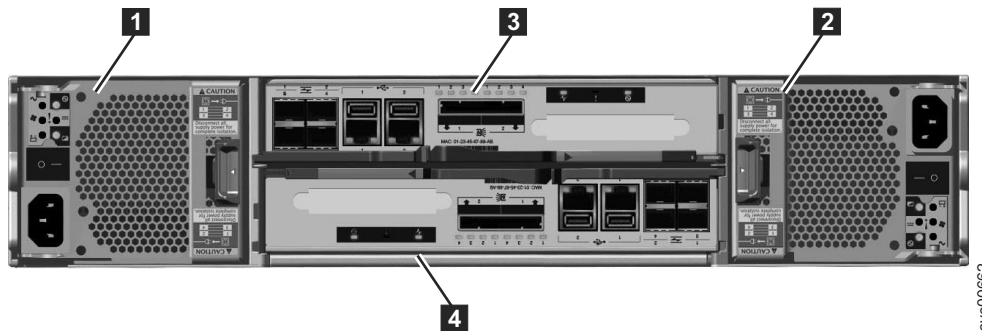

Figure 3. Rear view of a model 2076-112 or a model 2076-124 control enclosure
Figure 3 shows the rear view of a control enclosure and identifies the location of the power supply units and the canisters.
- Two canisters are housed in the middle of the enclosure. Each canister is known as a node canister. The upper canister, as shown in Figure 3, is labelled **3**, and the lower canister is labelled **4**. Canister **3** is top side up, and canister **4** is inverted, or top side down.